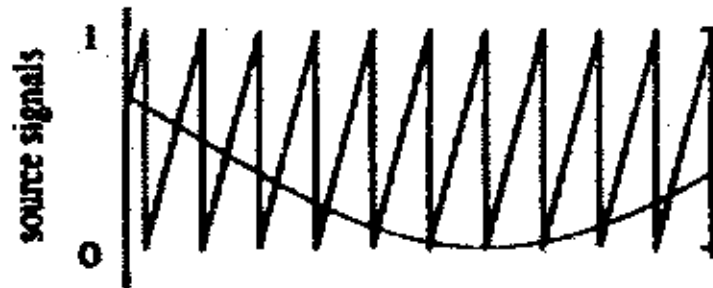

Figure Q5(c)(i)
- An op amp generates the triangular waveform and a comparator produces the PWM output signal. The input waveforms from this circuit are shown in Figure Q5(c) . Sketch and explain in detail, the output of the PWM signal based on the given signal in Figure Q5 (c). (8 marks)